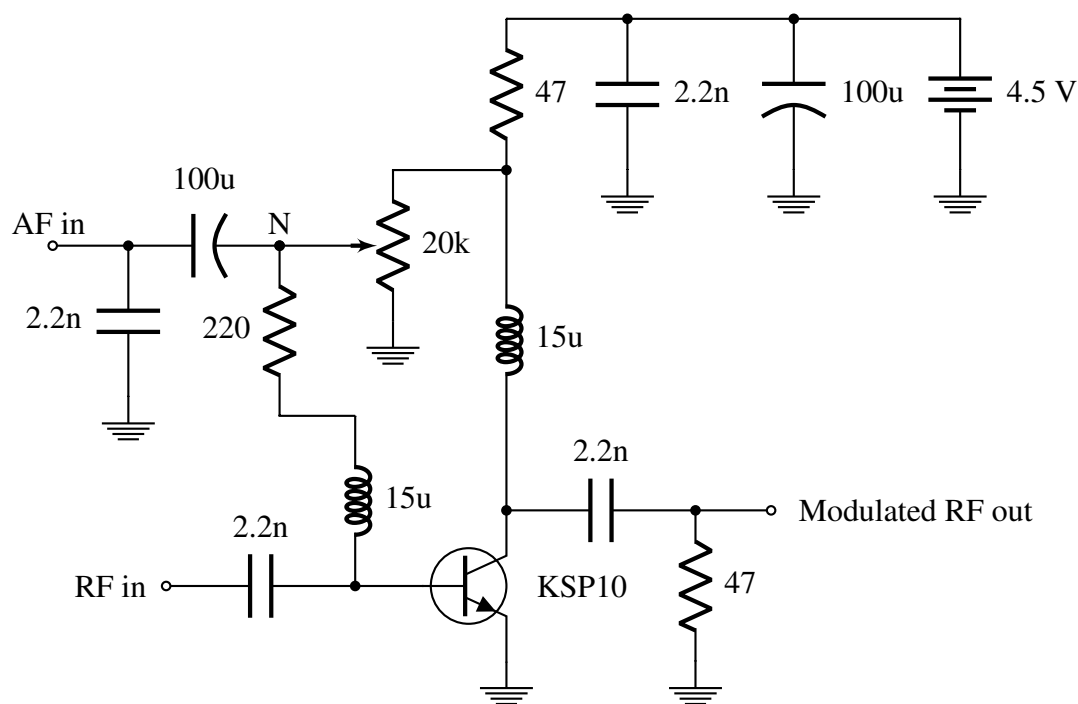

Figure 1: The modulator.
The operation of this amplitude modulator (Figure 1) is based on the 18-MHz *amplifier* that was build and tested previously. The only significant difference is that there is an extra input, called AF in, audio-frequency input.
The potentiometer (Figure 1) allows you to choose the base current I_b and thereby also the collector current I_c , since collector $I_c = \beta I_b$ where β , the DC current gain, is constant; typically $\beta \approx 100 \dots 120$ for bipolar junction transistors. The voltage gain of the transistor is dependent on these DC currents. When you turn the potentiometer, you actually adjust the voltage gain. In that sense this circuit is also a “variable-gain amplifier”. The gain can be varied by turning the potentiometer knob. In this application you should set the collector current to about 4 mA, because at that current: (1) transistor is operating in active mode (2) the gain is strongly dependent on the current.
The information current that comes from the AF input sums up with the DC current at node N, see Figure 1. The consequence is that both the amplifier gain and the output amplitude will vary according to the information current. Note that the information current is AC. This means that the net current to the transistor base is sinked and sourced at the audio frequency rate, making the gain alternate about the average value.